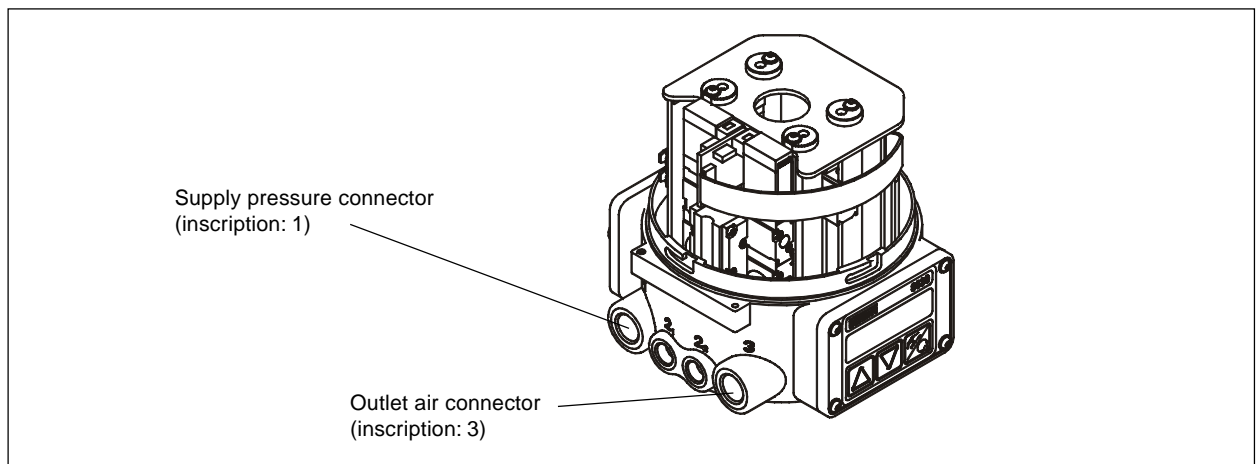

Bild 5.1: Fluidic connections of the *TopControl*
- ➔ Connect the air supply (3..7 bar, instrument air, oil, water and duster) to port 1 (Fig. 5.1).
- ➔ Mount the exhaust air pipe or noise reducer on port 3 (Fig. 5.1).